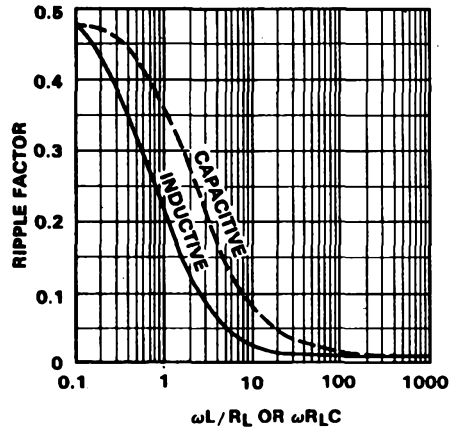
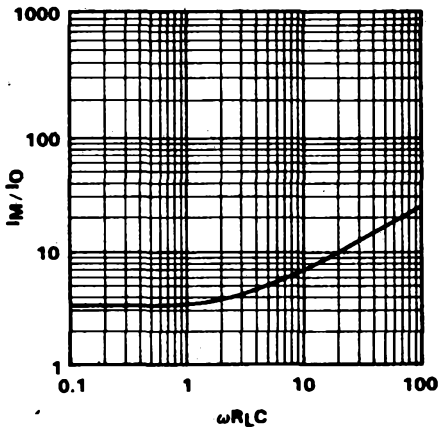
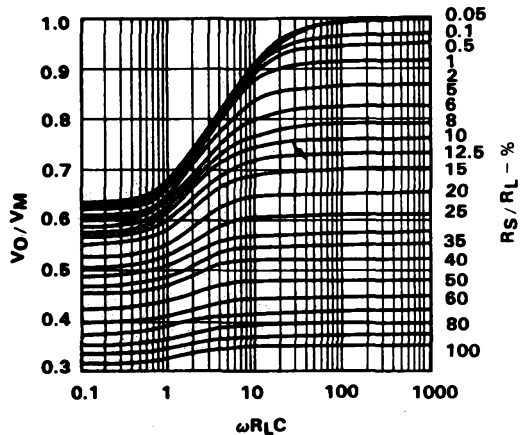

Fig. 4-9. Filter Product
Fig. 4-10. Peak-to-DC Ratio
Fig. 4-11. Load Regulation
There are two interesting features. Efficiency has doubled, as can be expected when doubling the number of rectifiers. In addition, the ripple factor has decreased from 121% to 48% in comparison with the half-wave circuit. Even with ripple reduction, a 48% factor is normally too high to be useful and must be filtered. Figure 4-9 is the filter product plot for both capacitive and inductive filters, assuming  $R_S \ll R_L$ . High peak currents are always associated with capacitive filters and Figure 4-10 plots the ratio of peak-to-dc current as a function of the filter product. The relationship between the filter product, the  $R_S/R_L$  ratio and the dc output-to-peak input voltage is given in Figure 4-11 for the capacitive input filter. Load regulation may also be determined from Figure 4-11 by using the high and low limits for  $R_L$ .
Step 1 Find the filter product from *Figure 4-9*
using the filter values from *Figure 4-11*.
$$V_{pk} = 0.7 + \frac{.20}{0.82} \text{ (intersection of } 5\% \frac{R_S}{R_L} \text{ and } \omega R_L C = 10 \text{ from } \textit{Figure 4-11}.$$
Step 6 Check peak diode current from *Figure 4-10*. For this example at a filter product of 10, the peak current is seven times the dc current, or 7 A.